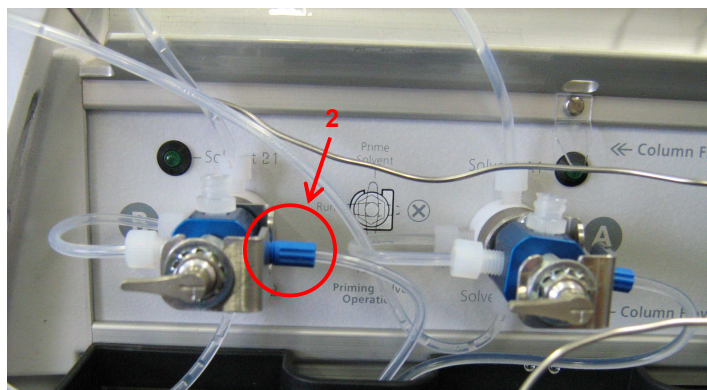

Figure 4: SUM connection to the de-bubbler
3. Once the shortest de-bubbler has been selected, disconnect the tubing connecting the SUM selection valve B (2) Figure 4 to the left pump head (Pump B). Replace this line with the shortest de-bubbler line.